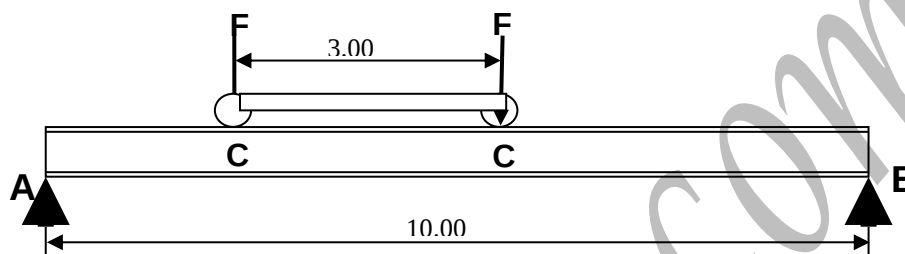

Figure 6
1) Here below is one of the beams of an overhead transportation system use in warehouse. The displacement of objects is done through a bloc of trolleys as indicated in figure 6 below.